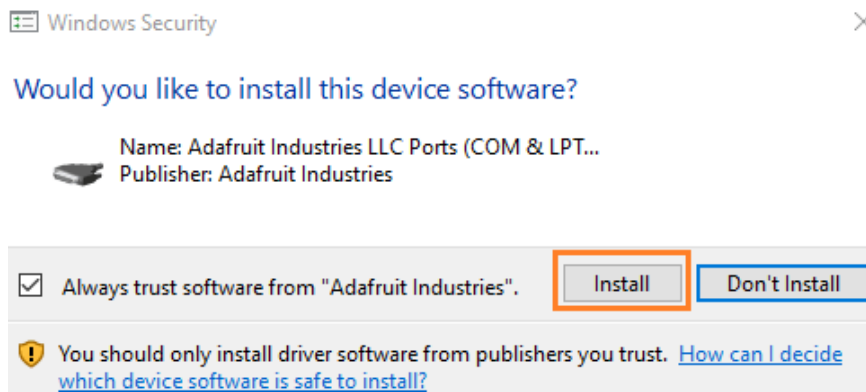

Fig.2.10: Installation Window
4. Now, accept the security for the installation three times. Click on the 'Install' button (Fig.2.10).